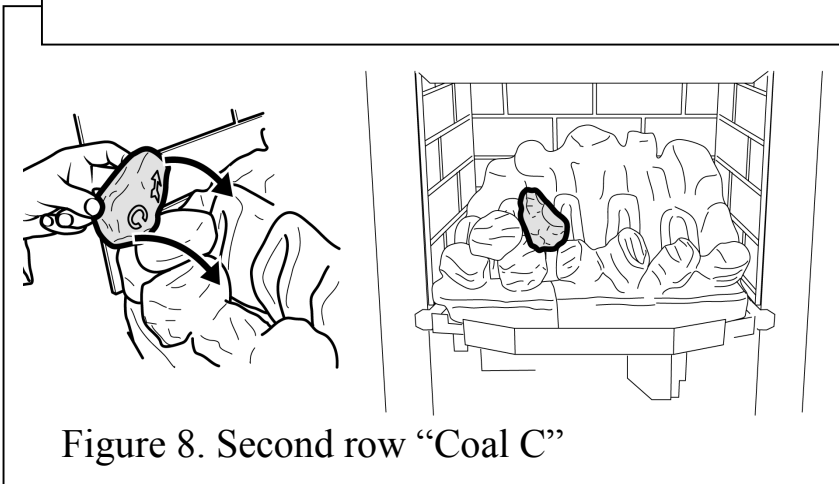

Figure 8. Second row "Coal C"
11. Hold coal 'C' upright with the arrow pointing to the top. Locate coal 'C' as shown in figure 8.